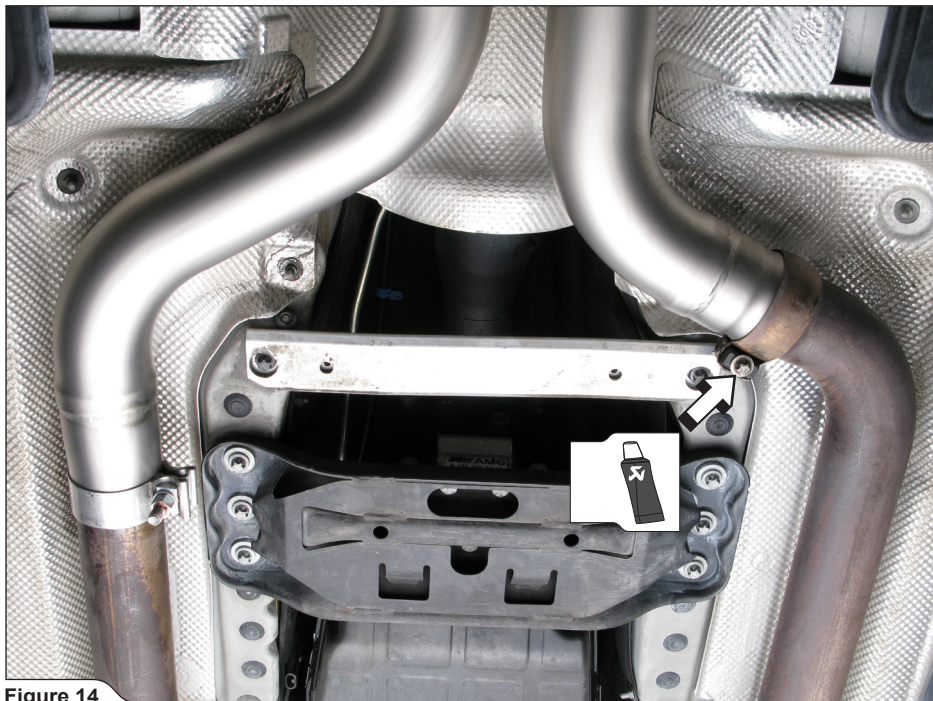

Figure 14
2. **For Evolution only:** attach the middle pipes onto the original down pipes and **hand** tighten the stock spherical clamp and Akrapovič clamp (**Figure 14**).